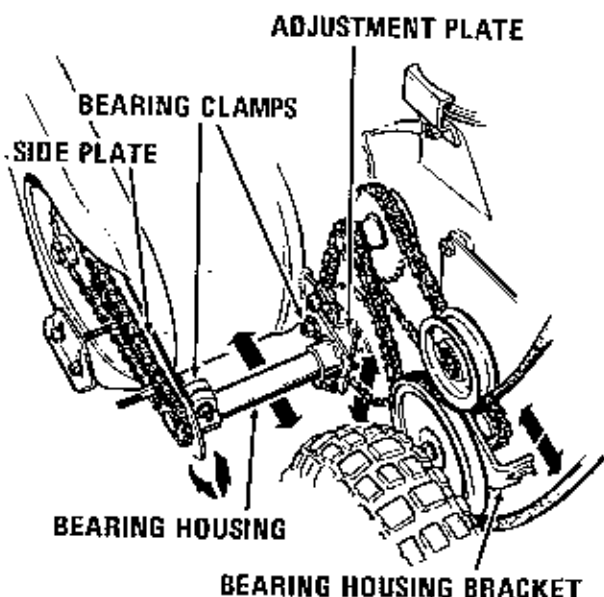

Figure 14
3. To adjust the chain between the engine drive and the impeller, shaft, loosen but do not remove the hardware holding the bearing housing bracket to the frame. Move the bearing housing bracket down and to the rear to achieve the proper chain tension. Re-tighten all hardware at this time. See Figure 14.